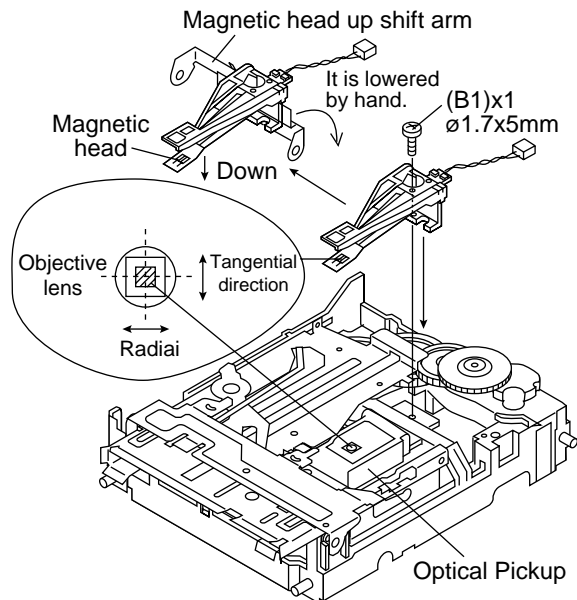

Figure 30-2
5. Check that the magnetic head goes up and down smoothly. (See Fig. 30-2.)